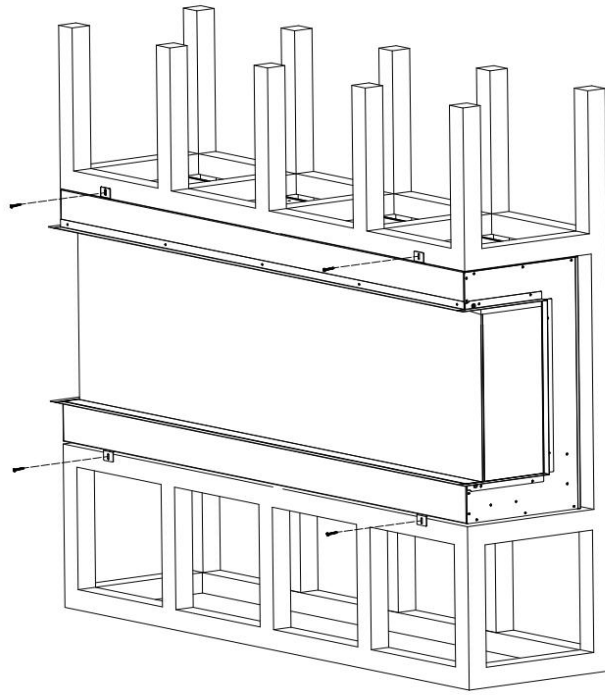

Fig.3-3
6.Insert the fireplace into the wall opening. Drive the mounting screws into the brackets and the wall studs. Plug in and check if the fireplace works properly.Fig.3-3